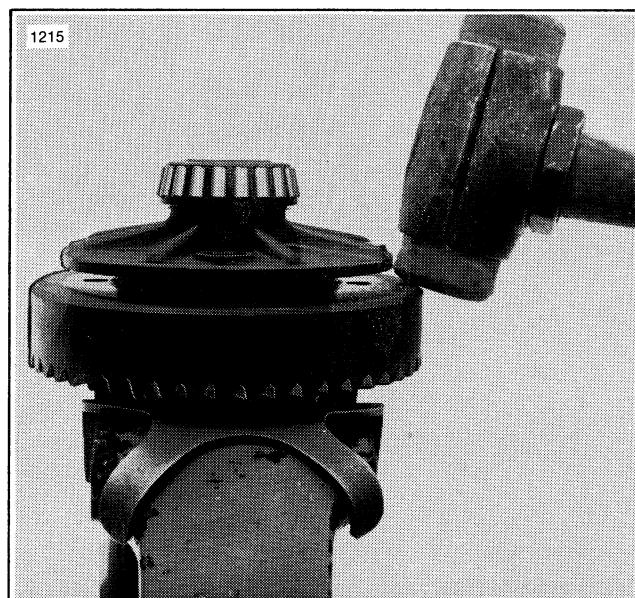

Figure 3-15. Tapping Off Ring Gear
13. Use a soft hammer to tap ring gear from differential case (Figure 3-15). Be careful not to damage ring gear teeth.